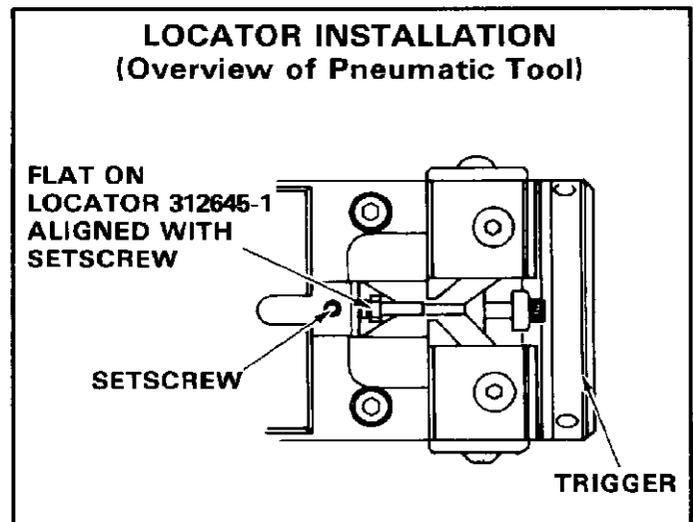

Fig. 4
2. The flat side of the locator faces UP. See Figure 4.